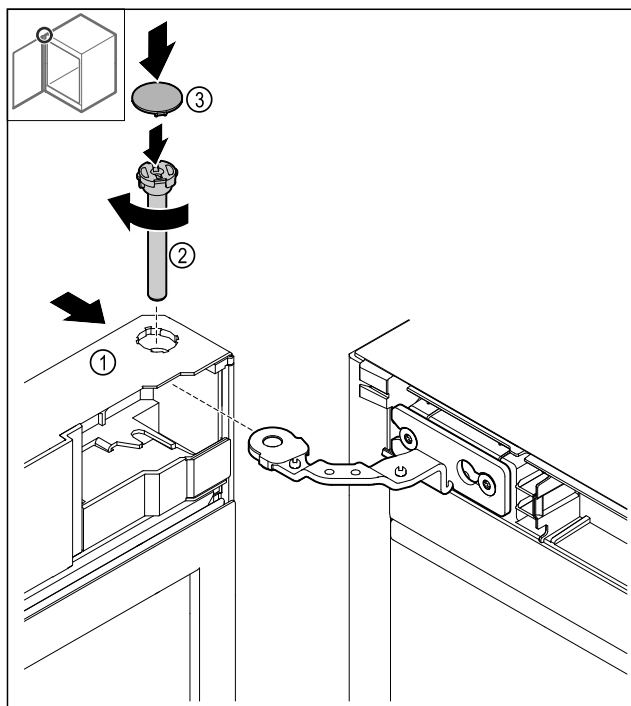

Fig. 51
- Push the door Fig. 51 (1) up onto the hinge.
- Insert the pin Fig. 51 (2) firmly screw it in clockwise.
- Put on the Fig. 51 (4) cover.